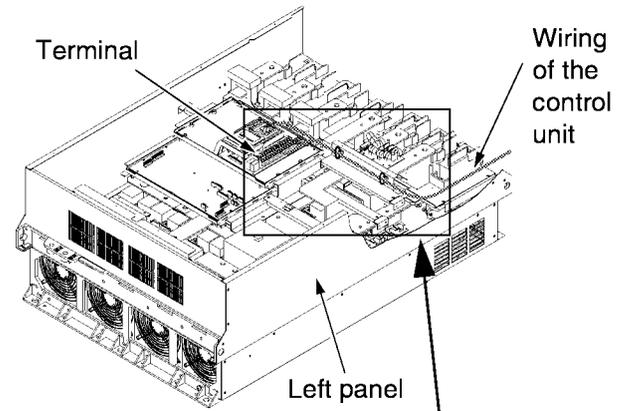

Figure 2-3-16 The wiring route of the control unit
1. As shown in Fig. 2-3-16, pull out the cables along the left panel